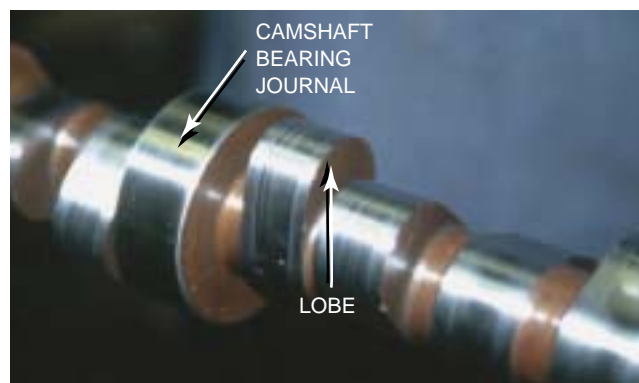

Figure 9–1 This high-performance camshaft has a lobe that opens the valve quickly and keeps it open for a long time.
Cam lobe shape has more control over engine performance characteristics than does any other single engine part. Engines identical in every way except cam lobe shape may have completely different operating characteristics and performance. See Figure 9–1. The camshaft may also operate the following:
See Figures 9–2 and 9–3.
Pushrod engines have the cam located in the block. The camshaft is supported in the block by **camshaft bearings** and driven by the crankshaft with a gear or sprocket and chain drive. See Figure 9–4. Many over-
1. **Silent chain type** (also known as a **flat-link type**, or **Morse type** for its original manufacturer). This type operates quietly but tends to stretch with use. See Figures 9–7 and 9–8.
2. **Roller chain type.** This type is noisier but operates with less friction and stretches less than the silent type of chain. See Figure 9–9. Roller chains are superior to the silent (flat link) type and last longer. Often, the engine for a passenger car may use a silent chain; the same engine for a truck may come equipped with a roller chain.
Some four-cam “V” type engines use a two-stage camshaft drive system. See Figure 9–10. Some four cylinder, two cam engines use two chains; the primary chain drives one camshaft and the secondary chain connects the two camshafts.
Figure 9–7 A replacement silent chain and sprockets. The original camshaft sprocket was aluminum with nylon teeth to help control noise. This replacement set will not be noticeably louder than the original and should give the owner many thousands of kilometres of useful service.
Figure 9–8 The industry standard is to replace a timing chain and sprockets when 13 mm (1/2 in.) or more of slack is measured in the sprockets. However, it is best to replace the timing chain and sprockets anytime the camshaft is replaced or the engine is disassembled for repair or overhaul. (Courtesy of Sealed Power Corporation)
Figure 9–9 A replacement high-performance double roller chain. Even though a bit noisier than a flat-link chain, a roller chain does not stretch as much and will therefore be able to maintain accurate valve timing for a longer time.
Pushrods are designed to be as light as possible and still maintain their strength. They may be either solid or hollow. If they are to be used as passages for oil to lubricate rocker arms, they *must* be hollow. Pushrods have a convex ball on the lower end that seats in the lifter. The rocker arm end is also a convex ball unless there is an adjustment screw in the pushrod end of the rocker arm. In this case, the rocker arm end of the pushrod has a concave socket. It mates with the convex ball on the adjustment screw in the rocker arm. All pushrods should be rolled on a flat surface to check if they are bent. See Figure 9–19.
Figure 9–19 When the timing chain broke, it caused the camshaft to go out-of-time, which allowed the pistons and valves to collide on this interference engine. This may also bend the pushrods. Valve-to-piston contact will not occur on freewheeling engines.
1. Camshaft duration is the number of degrees of crankshaft rotation during the time the valve is lifted off the valve seat. See Figures 9–20 and 9–21.
If we follow the cam timing diagram (Figure 9–24, p. 179), we find that the intake valve opens at 15° before top dead centre (TDC), stays open from top dead centre to bottom dead centre (BDC), which is a further 180°, and closes 59° after BDC.
Figure 9–18 Some engines today use rocker shafts to support rocker arms such as the V-6 engine with a single overhead camshaft located in the centre of the cylinder head. This engine uses a roller on the rocker arm.
Figure 9–20 The lobe lift is the amount the cam lobe lifts the lifter. Because the rocker arm adds to this amount, the entire valve train has to be considered when selecting a camshaft that has the desired lift and duration.